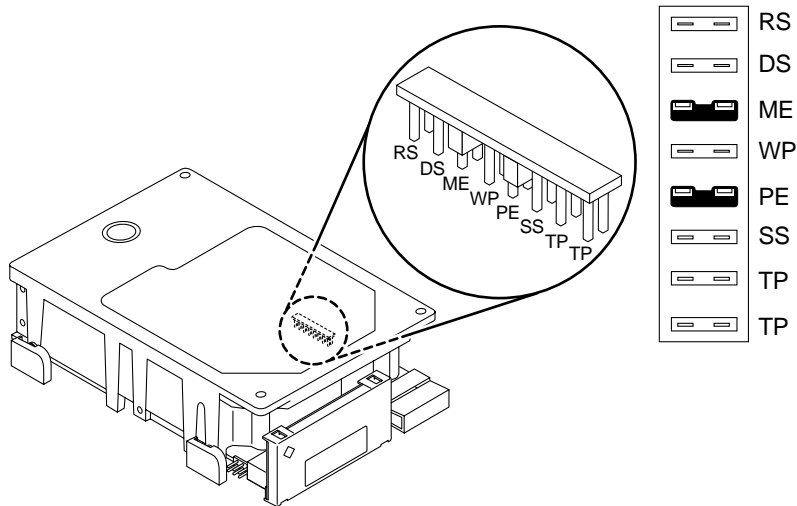

FIGURE 12-8 Configuration Jumper Settings for Both Disk Drives
3. Verify that the configuration jumpers are correctly set. See FIGURE 12-8 and TABLE 12-3.